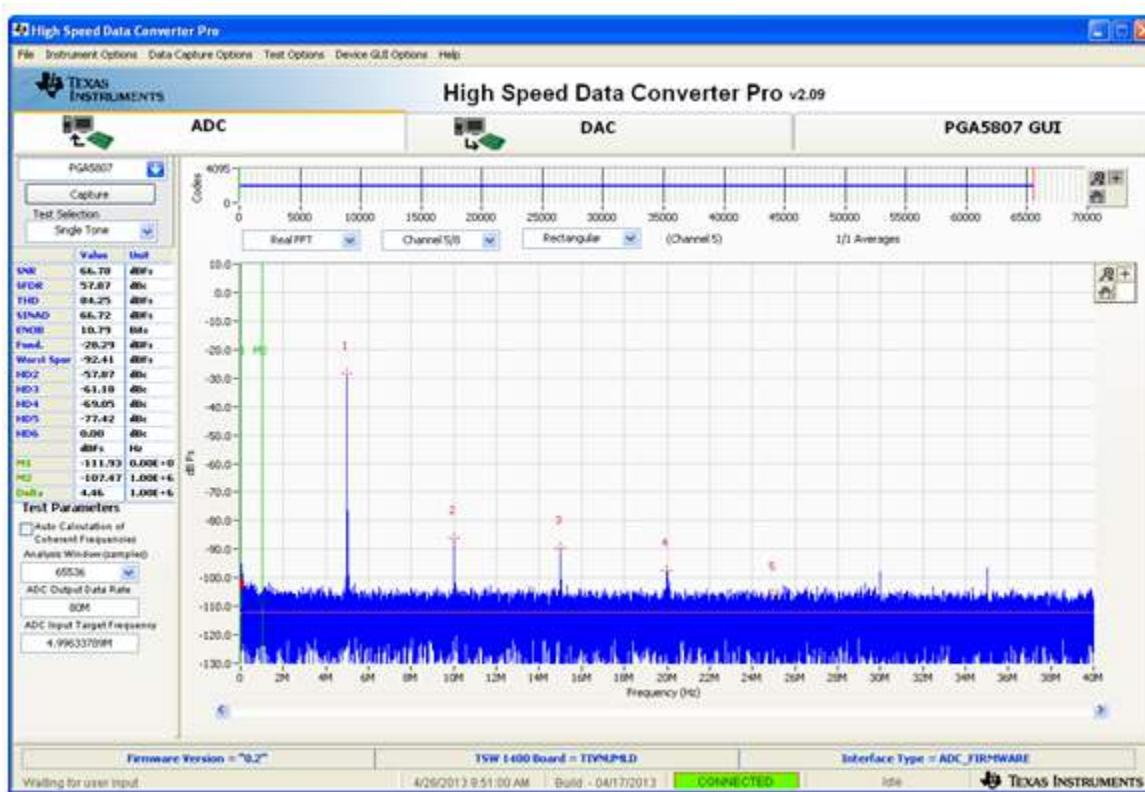

Figure 51. PGA5807A + ADS5296A Gain Test Capture 4
9. Click on the *ADC* tab and press the *Capture* button to see the result shown in Figure 51. Again, take the difference in the *Fund.* value shown here to previous capture. This difference should equal the difference in **GAIN[x]** value that was set, or 18dB.